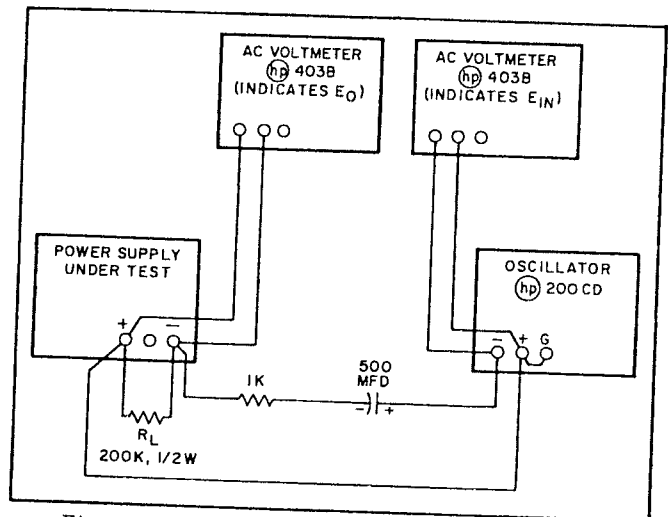

Figure 5-9. Output Impedance, Test Setup
a. Connect the test setup as shown in Figure 5-9. The best method of connecting the load resistor, oscillator, and AC voltmeter to the power supply is